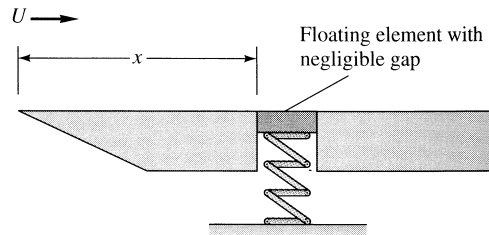

Fig. P7.43
**7.43** In the flow of air at  $20^\circ\text{C}$  and 1 atm past a flat plate in Fig. P7.43, the wall shear is to be determined at position  $x$  by a *floating element* (a small area connected to a strain-gage force measurement). At  $x = 2$  m, the element indicates a shear stress of 2.1 Pa. Assuming turbulent flow from the